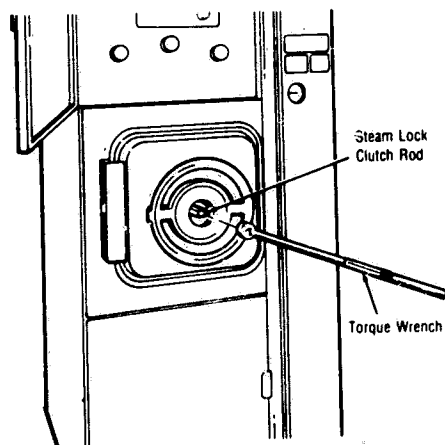

Figure 5-2. LOCKING DOOR TO CORRECT TORQUE.
1. Using a torque wrench on the steam lock clutch rod, close and lock door to approximately 20 ft-lbs torque. The DOOR UNLOCKED light on primary panel should go out. See Figure 5-2.